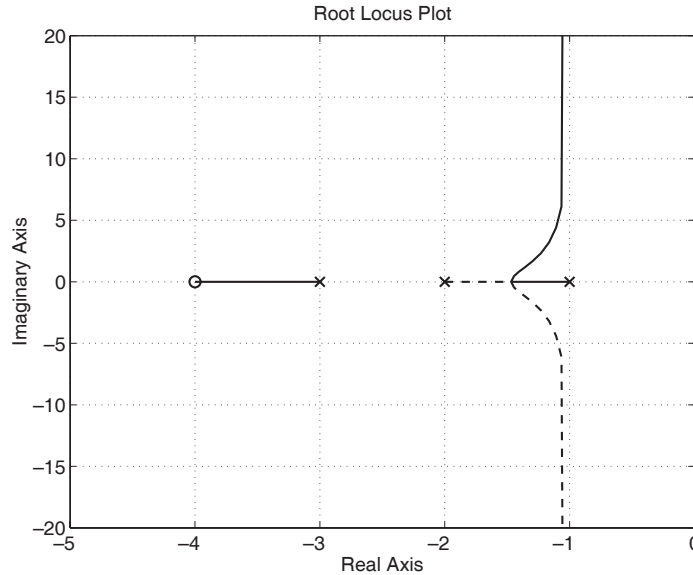

Figure 1
1. **Determine the open-loop transfer function of the system generating the root locus plot shown in Figure 1. (25 pts)**